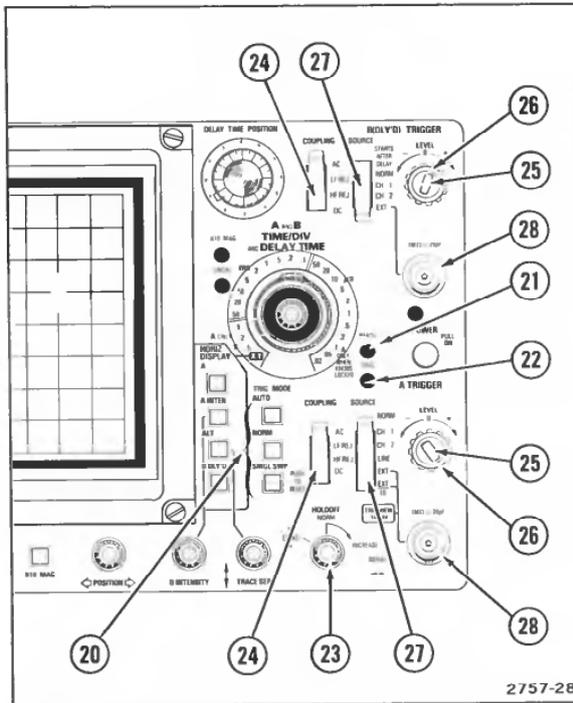

Figure 2-5. Trigger controls, connectors, and indicators.
Refer to Figure 2-5 for location of items 20 through 28.